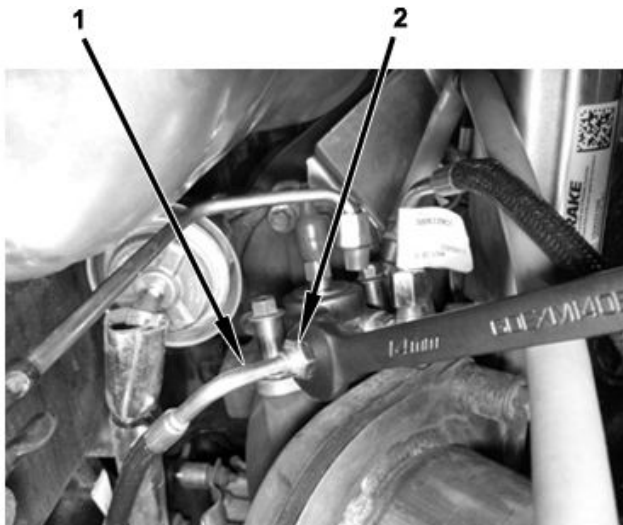

Figure 34. HCl Coolant Outlet Tube.
15. Install HCl coolant outlet tube (Figure 34, Item 1) to HCl, tighten HCl coolant outlet tube nut (Figure 34, Item 2), and torque to 11 lb-ft (14.9 N·m).